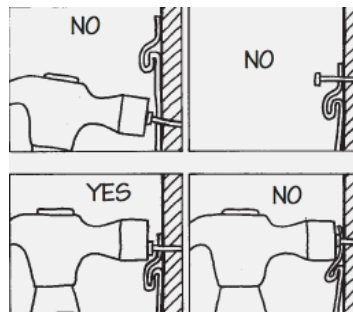

Figure 11-7. Siding Nail Head Gap.
1. Vinyl siding expands and contracts due to temperature changes. Never drive nails tight. The siding panels must hang on the nails and be permitted to move from side to side. Leave a ⅛” gap (the thickness of a nickel) between the nail head and the siding slot (see Figure 11-7).